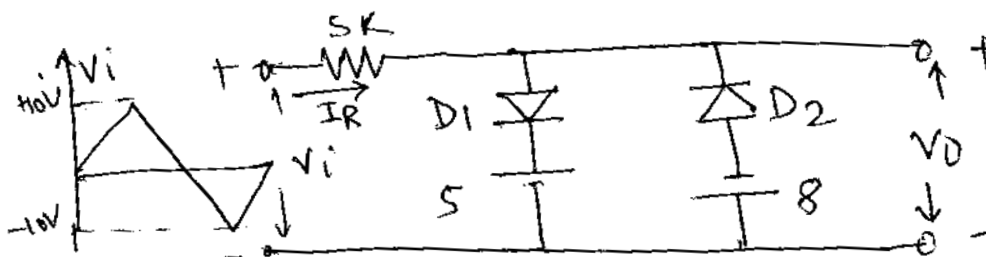

Fig. 1
B) For the circuit shown in fig. 1. Assuming ideal diode sketch I_R and V_O . 6